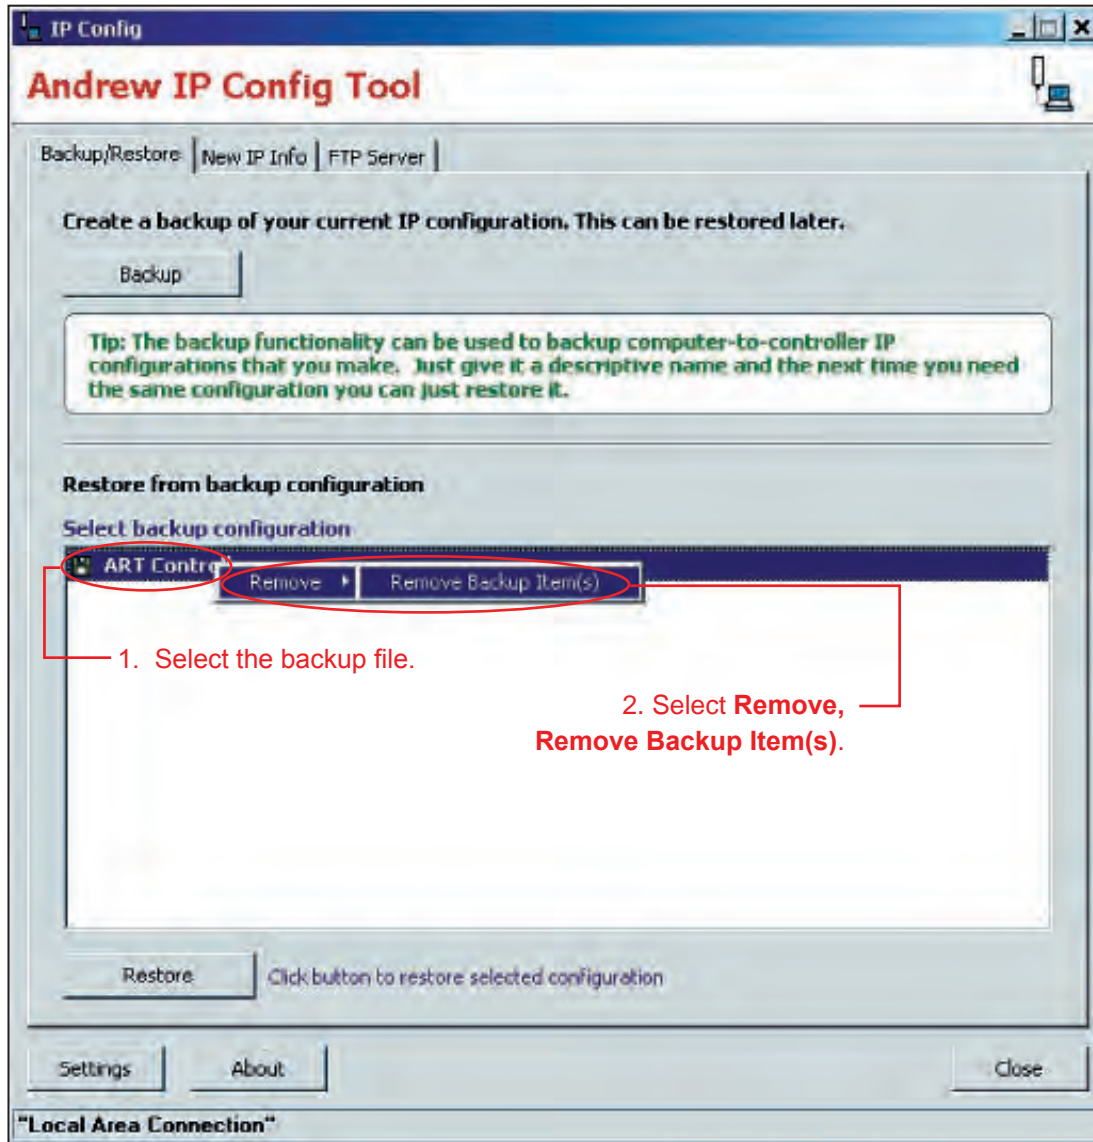

Figure 3-10. Removing Backup File From IP Config Tool.
1. Right click on the backup file shown in the window (Figure 3-10).
2. Select the remove options from the pop-up menu (Figure 3-10).